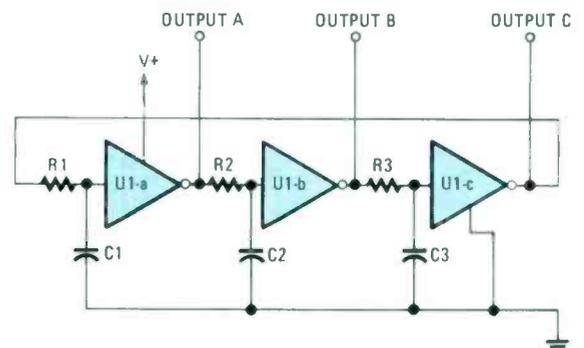

Fig. 1—This three step clock can be built around nearly any CMOS inverter, but high-speed types are not recommended because of their tendency to produce RFI.
The best location for kite flying is either on the windward side of a hill, or on a plain where there are no ground irregularities at all. The wind tends to rise upward along the windward side of a hill, but turbulence occurs at the crest and especially on the leeward side of the crest (Fig. 1). I live just past the crest of a hill on the northern side and have continuing problems with winds from the south, southeast, and southwest. Winds from the north and northwest are much more stable even though kite flying in such winds makes it necessary to hang the kites over the neighborhood where they attract attention. There is no question; using kites as antenna supports puts your hamming or SWLing in the hands of Nature to a large extent.
Fig. 1—This is an illustration of wind circulation over a hill. The best points for kite launching are on the windward side (X). The crest of the hill (Y), and especially the leeward side (Z) are subject to turbulence, although a high-flying kite can sometimes be used to get above the turbulence if launched from those points.
Figure 1 shows a functional diagram of the main part of the Mini-Marque circuit. Three gates of a CMOS hex inverter/buffer form an astable multivibrator (or oscillator) with a three-step output. When the power is first turned on, the outputs are initially floating high. The application of power causes C1, C2, or C3 to charge because of circuit instability. Let's assume C1 has charged, the output of that inverter, U1-a, goes low. The low output of the first inverter is fed to the second inverter (U1-b), causing its output to go high.
Refer to Fig. 2—the complete schematic diagram of the Mini-Marque. Note that the oscillator of Fig. 1 is now com-
Any signal—analog or digital—that is not a sinewave is said to be nonsinusoidal. The most common nonsinusoidal signal is a rectangular wave. Several examples are given in Fig. 1. Obviously, their name is derived from their shape. Those waveforms switch between two different voltage levels. The vertical part of the wave represents an "instantaneous" transition from one level to the other. In A the waveform switches from zero to +10 volts and back. The 0 to +10 transition is called the leading edge while the +10 to 0 transition is known as the trailing edge. Note that the wave has two parts, "on" when +10 volts is present and "off" when the wave is zero. The "on" parts of the waveform are usually referred to as pulses.
We compute the pulse amplitudes of the waveforms in Fig. 1 as follows:
Fig. 1—In A, the waveform switches from zero to +10 volts and back, so the amplitude is 10 volts. In B, the pulses are accompanied by a DC component. A waveform of equal amplitude, but without the DC component, would have a lower average value. In C, the rectangular wave has a zero average value since it's symmetrical. The waveform in D is DC, but it switches between two negative voltage levels, -0.8 and -5.2 volts, giving it a negative average value.